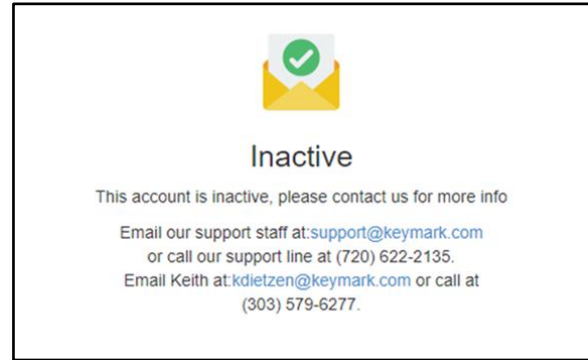

Figure 5: The error message a user receives when attempting to log in with an inactive user account.
6. **Active** – The `Active` checkbox is used to indicate whether or not a user account is currently operational. If there is no checkmark in this checkbox then, when the user attempts to log in, he or she will receive the error message shown in **Figure 5** at right.